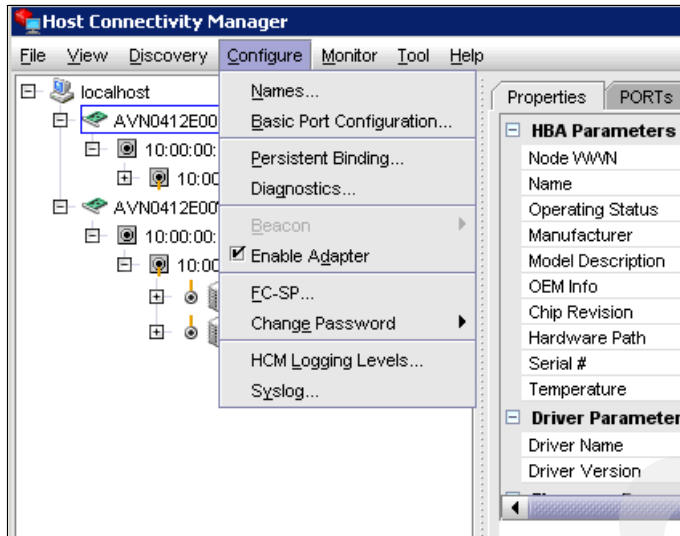

Figure 7-75 HCM Configure menu
- ▶ Configure HBA/port settings, persistent binding, and diagnostics (Figure 7-75 on page 440)